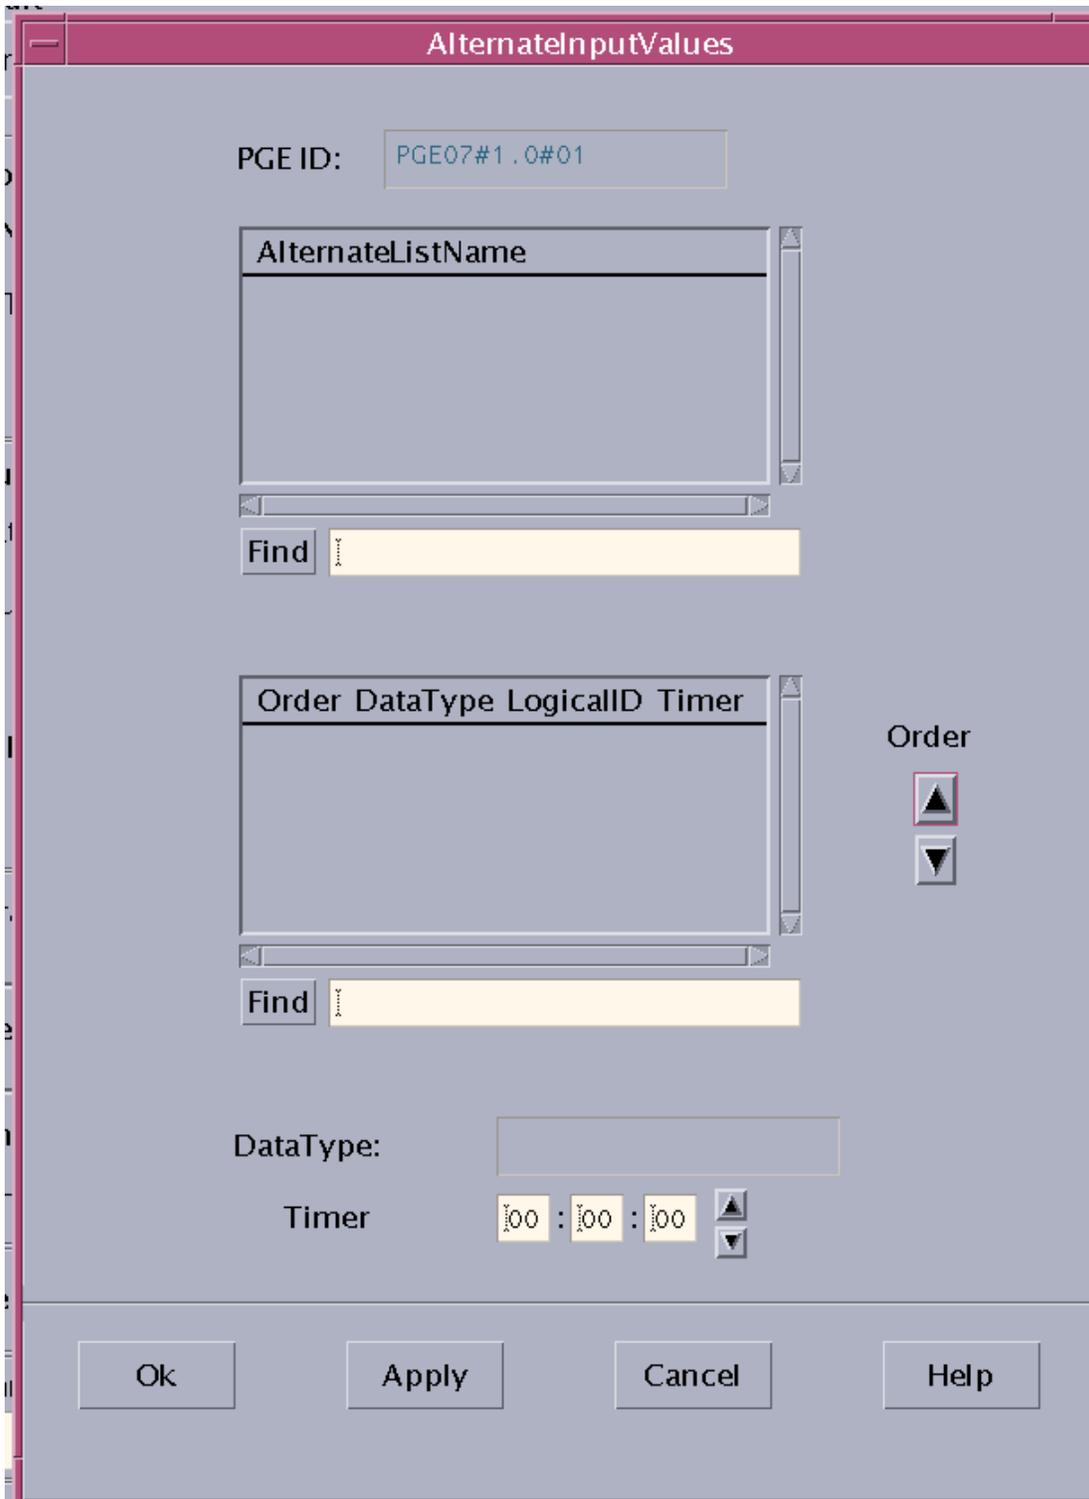

Figure 20. AlternatInputValues GUI
- The **AlternateInputValues** GUI page (Figure 20) is displayed.